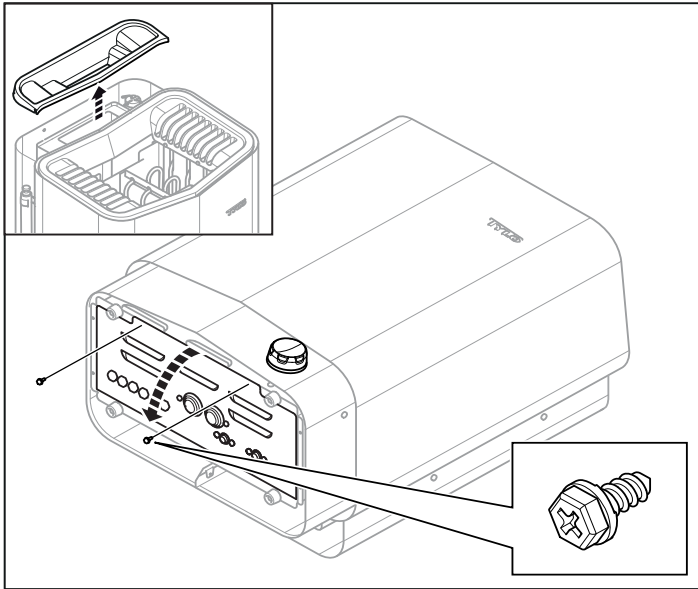

Figure 9: Opening/closing the cover
2. Remove the cover to the water reservoir and lay the heater down with the front facing upwards (see Figure 9).
3. Undo the screws and open the cover (see Figure 9).
8. Close the cover and tighten the screws (see Figure 9).